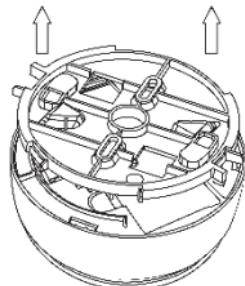

Figure 1
2. Twist and remove the plastic mounting bracket from the sounder (*see Figure 1*).
1. Remove the sounder from the plastic mounting bracket (*see Figure 1*).